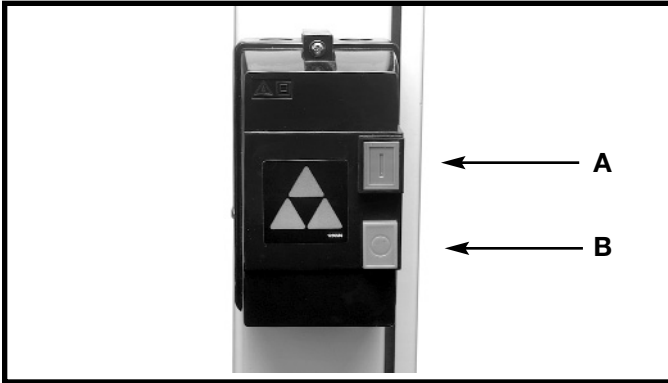

Fig. 14
The power switch is located on the left side of the machine. To turn the machine “ON”, push the green start button (A) Fig. 14. To turn the machine “OFF”, push the red stop button (B).